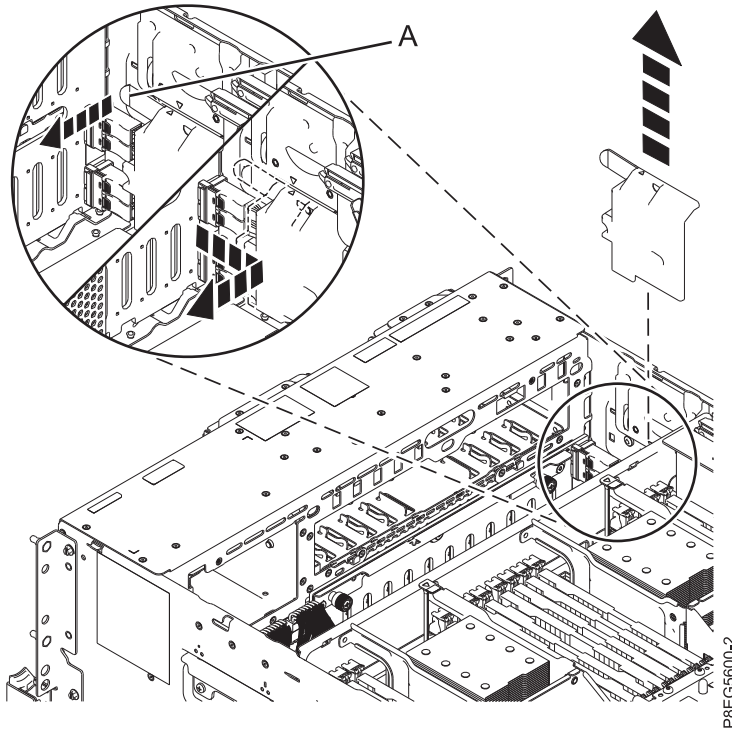

Figure 2. Removing the SAS cables cover
4. Remove the cover from the front SAS cable. Grasp the handle (A) and pull away from the side of the system, then slide the cover toward the rear to remove it as shown in Figure 2.